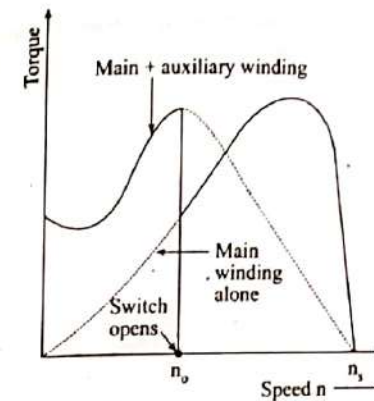

Fig. 3: Torque Speed Characteristics
- The torque-speed characteristics of this motor is shown in Fig. 3, which also shows the speed ' n_0 ' at which the centrifugal operates.